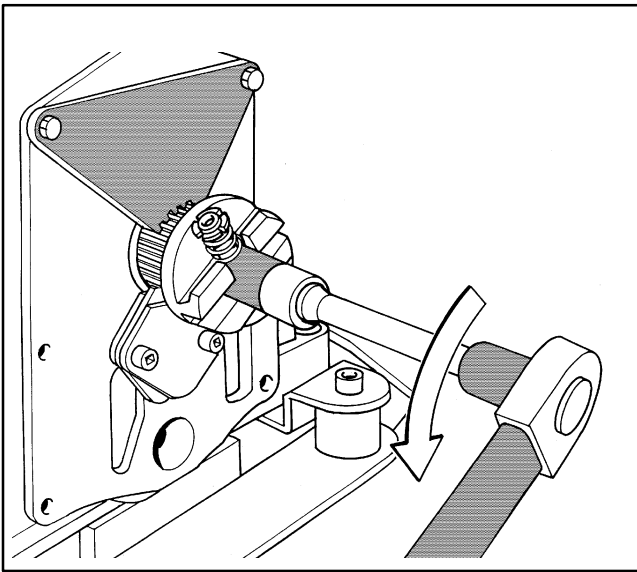

Figure 10-67 Governor
1. Install the holding device so that all of its teeth are engaged with the teeth of the crankshaft gear. See Figure 10-67.